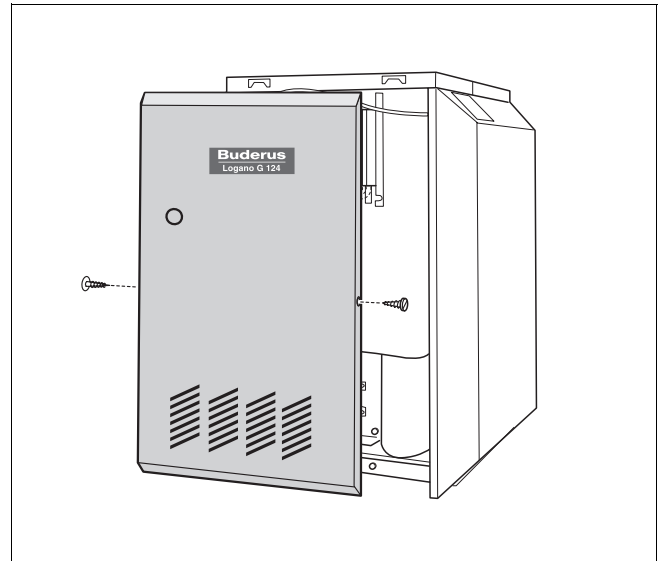

Fig. 6 Removing front panel of boiler
14. Attach front panel of boiler (→ Fig. 6 page 7).